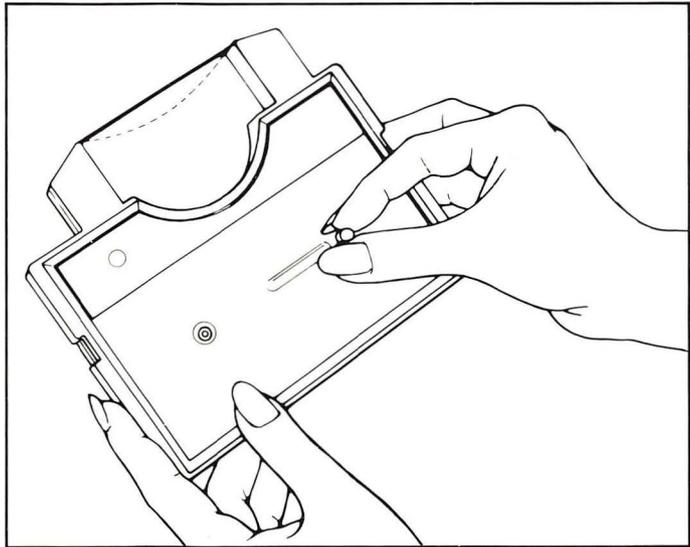

Figure 7. Tightening Ribbon
2. If the exposed ribbon is not stretched tightly between the cartridge fingers, tighten it by turning the knob on top of the cartridge counterclockwise. See Figure 7.